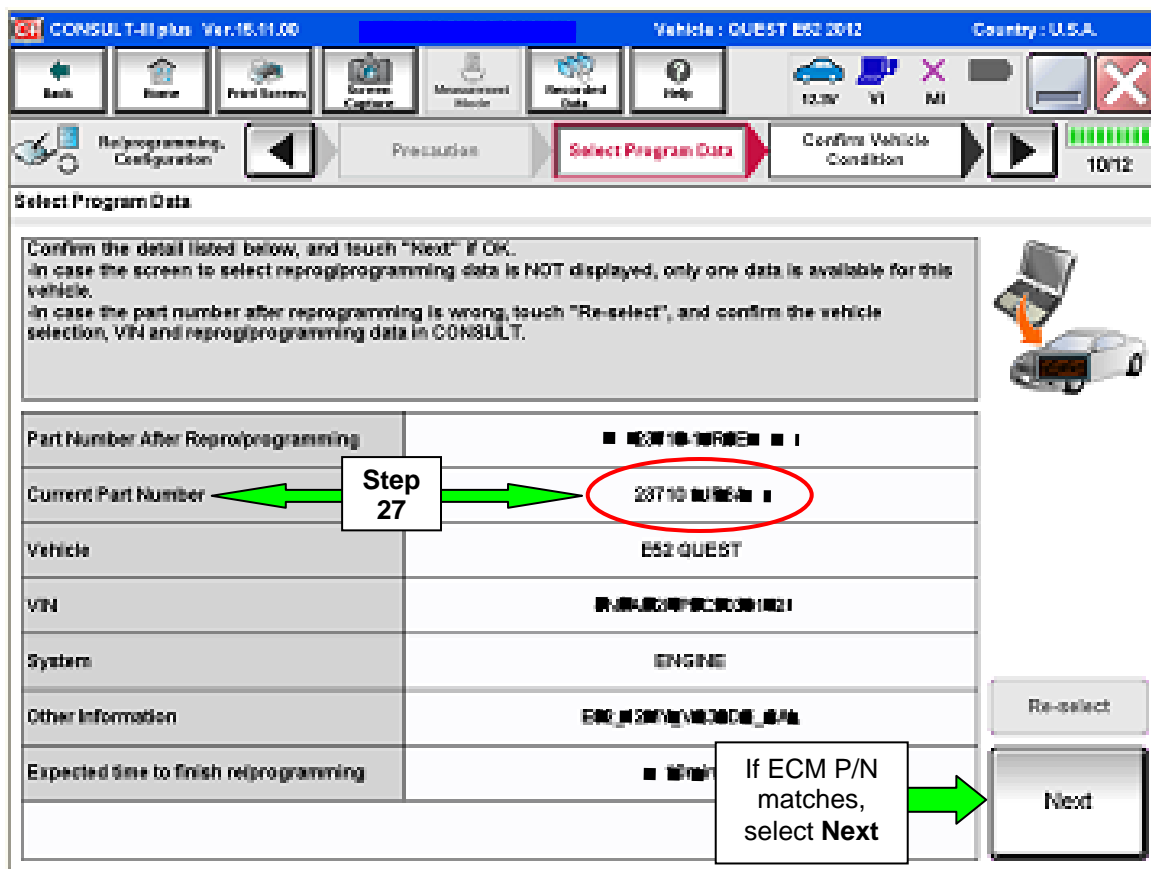

Figure 14
27. Find the ECM's **Current Part Number** (see Figure 14) and write it on the repair order.